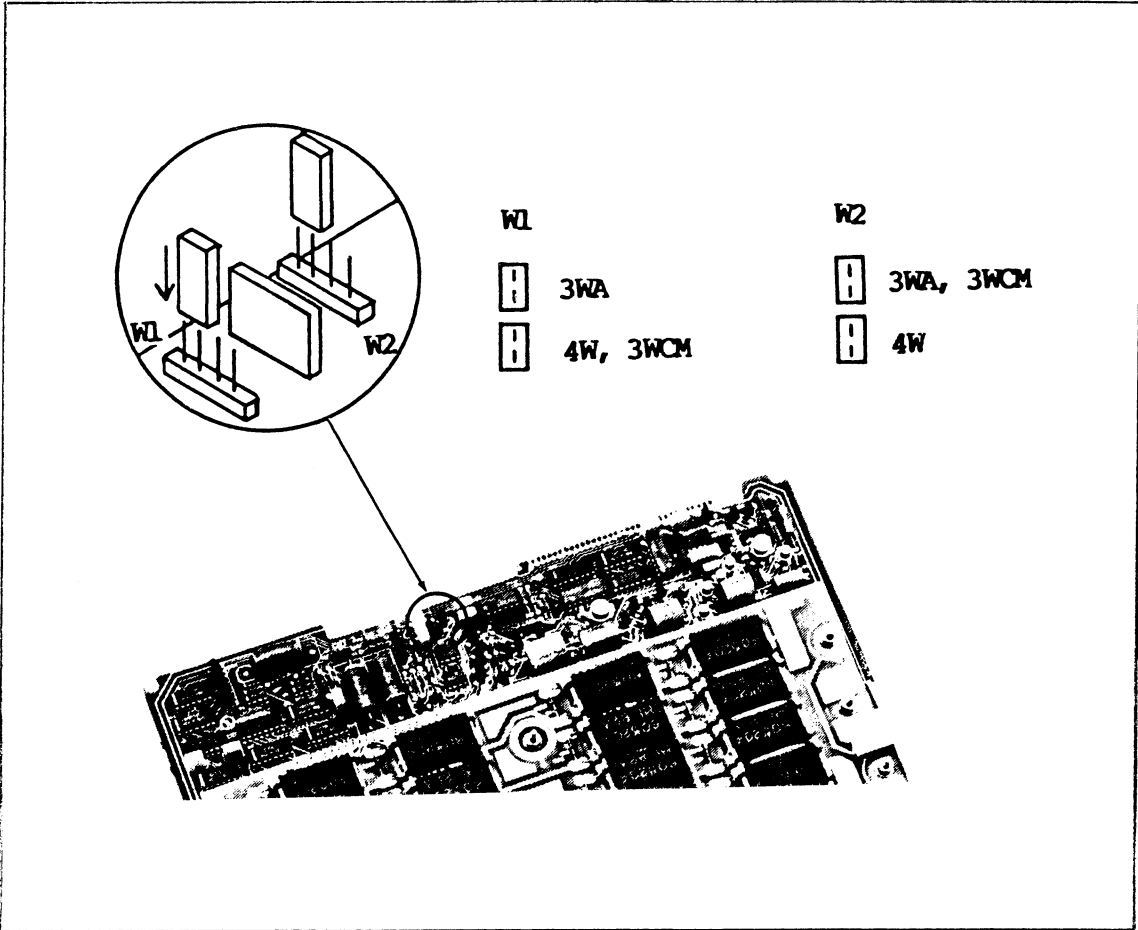

Figure 163-13. W1 and W2 Jumper Settings
5. Set jumpers W1 and W2 of the RTD/Resistance Scanner for 4W operation, and install the scanner in the option slot immediately below the A/D Converter. See Figure 163-13.
1. Ensure the RTD/Resistance Scanner's W1 and W2 jumpers are set for 4W operation. See Figure 163-13.
2. Set the W1 and W2 jumpers of the scanner for 3WA operation. See Figure 163-13.
2. Set the W1 and W2 jumpers of the scanner for 3WCM operation. See Figure 163-13.
1. Ensure the RTD/Resistance Scanner's W1 and W2 jumpers are set for 4W operation. (See Figure 163-13).